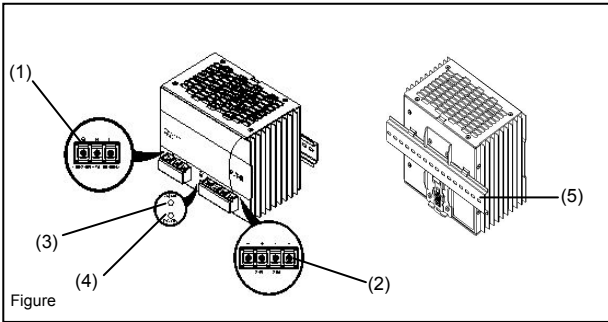

Figure 1
2. Device description (Fig. 1)
5.1. Input connection (Fig. 1 and Fig. 5)
5.2. Output connection (Fig. 1 (2))
Use the “+” and “-” screw connections to establish the 24 VDC connection. The output provides 24 VDC. The output voltage can be adjusted from 22 to 28 VDC on the potentiometer. The green LED DC OK displays correct function of the output (Fig. 1 (4)). The device has a short circuit and overload protection and an over voltage protection limited to 35 VDC.